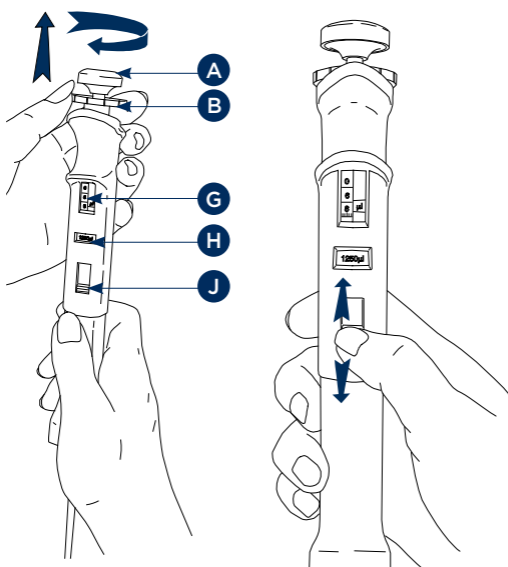

Figure 3
Set the volume of liquid to be dispensed in each aliquot using the black adjustment ring and the parallax-limiting digital volumeter (refer to Figure 3 on page 7). The volume is continuously adjustable in all ranges.
1. Pull up the black adjustment ring **B** refer to Figure 3 on page 7.